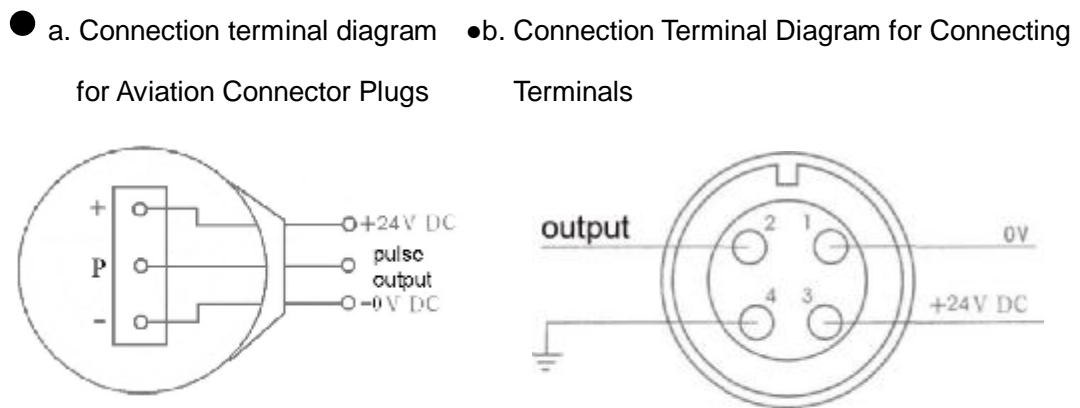

Figure 8-1 Connection Terminal Diagram of Type LWF—P Pre-Amplifier
**8.1.1** For technical parameter and connection terminal diagram for Type **LWF-P-1** pulse output pre-amplifier, see Figure 8-1.
The output signals are delivered by the connector plugs through 3-wire shielded cable, with metal shielded network grounded. The connection is as per Figure 8-1.
For wiring connection, please see Figure 8-1, in which **+12VDC** is **modified to +24VDC**.